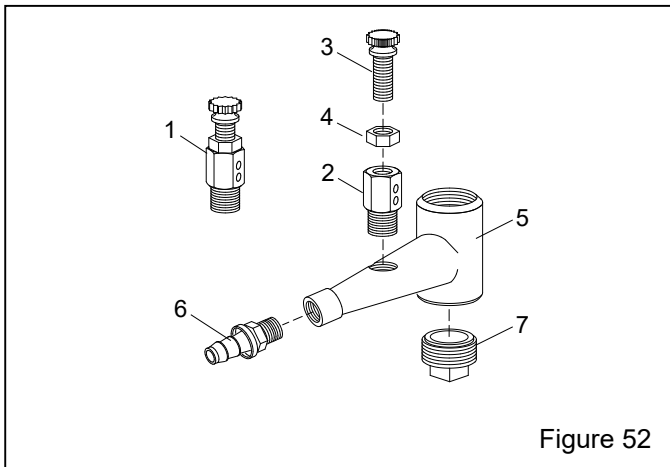

Figure 52
10.5 Metering Valve – Figure 52